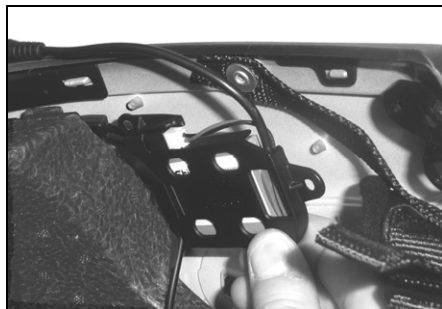

Fig. 29
- Secure the battery-holder support to the right side of the helmet, lining up the holes with the pins on the shell (Fig. 29).